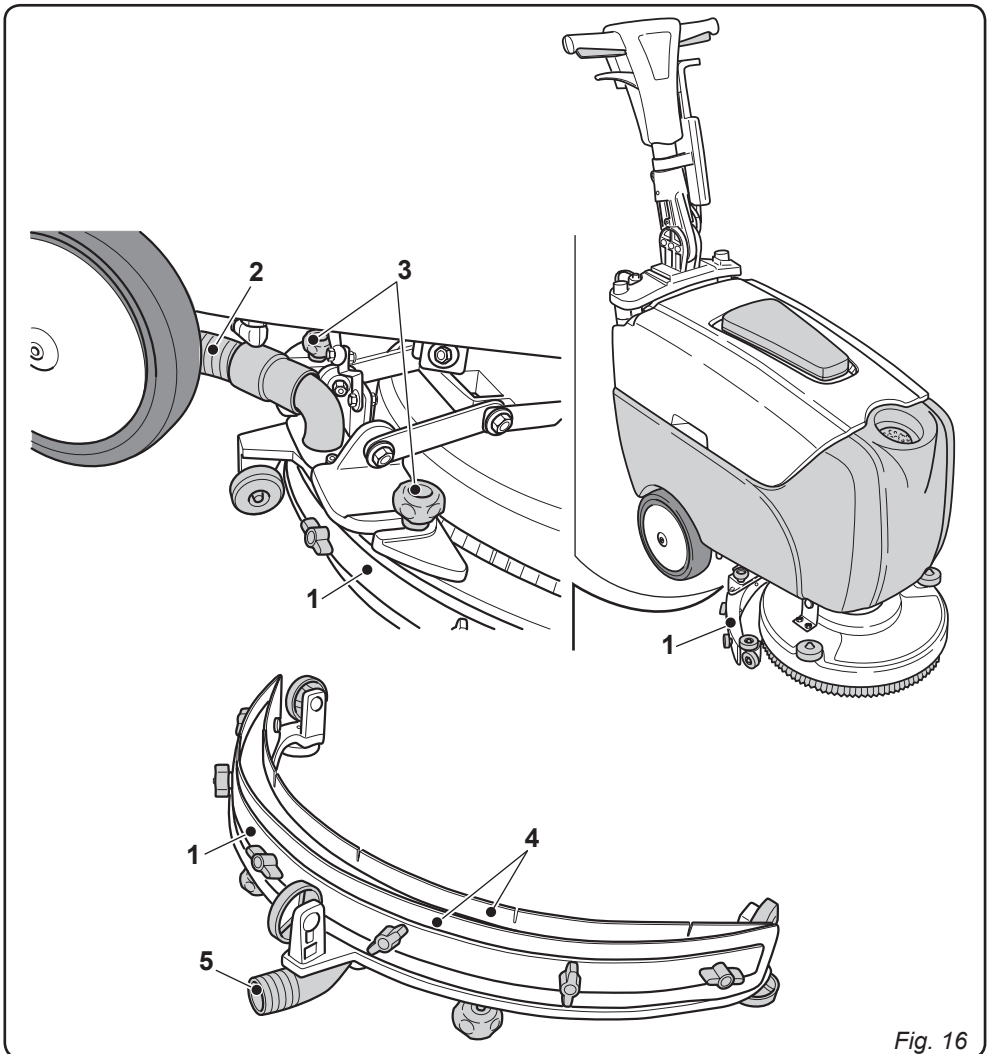

Fig. 16
11.1.c - Cleaning the squeegee (Fig. 16)